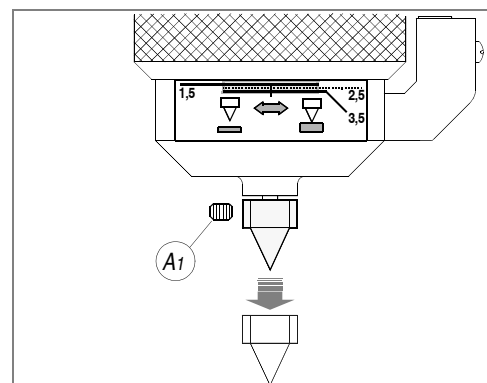

Fig. 32
- 2) remove the grub screw (A1) (fig. 32).